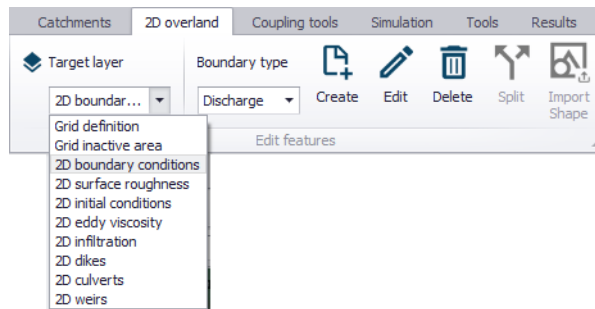
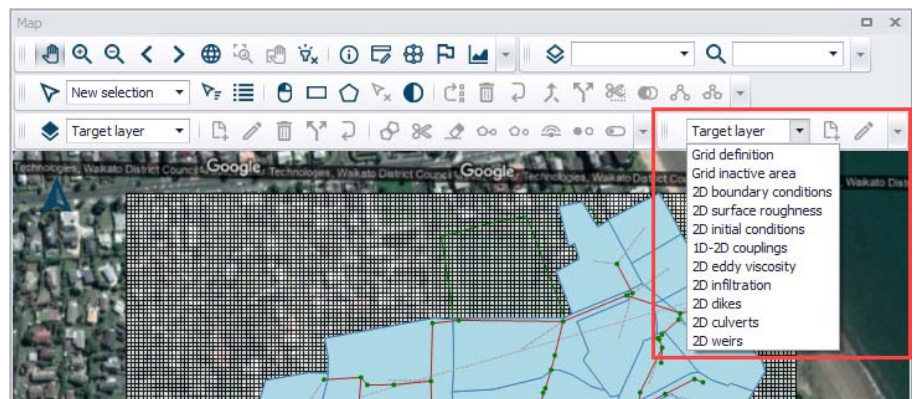

Figure 4.2 The Edit features toolbox on the 2D Overland menu ribbon
Figure 4.3 The Flooding Layer Editing Tools toolbar on the Map
2. Define 2D model boundary sections on the Map via the Edit Features toolbox on the 2D Overland menu ribbon (Figure 4.2) or the Flooding layer editing tools toolbar on the Map (Figure 4.3.)